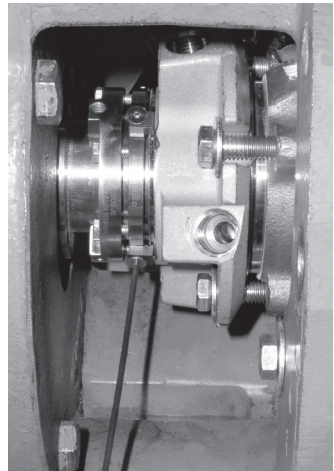

Figure 13
2.13 **Remove the setting devices** from the sleeve collar. See Figure 13. Save the tabs and fasteners for future use when the pump impeller is reset or when the seal is removed for repairs.